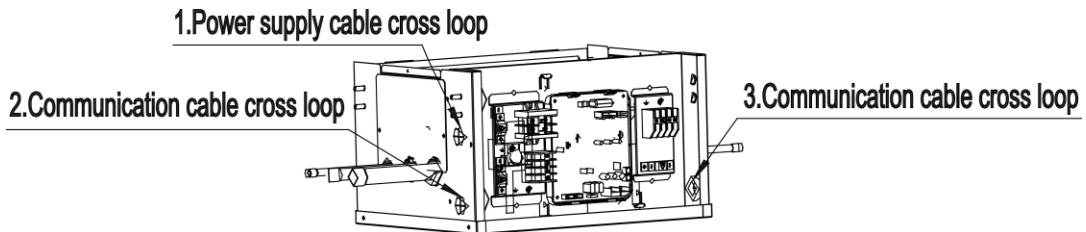

Fig.5.5
5) Take off the cable cross loop that is attached to the mode exchanger, as shown in Fig.5.5~5.8. Replace with a local cable cross bushing.